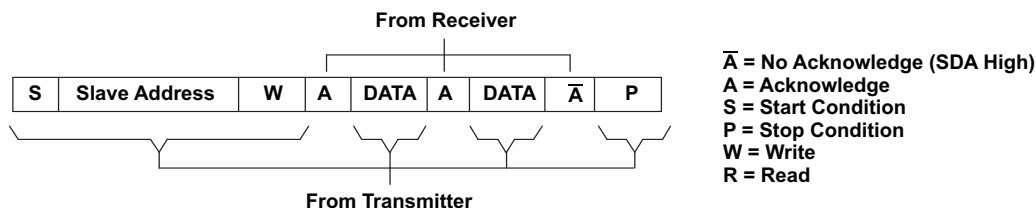
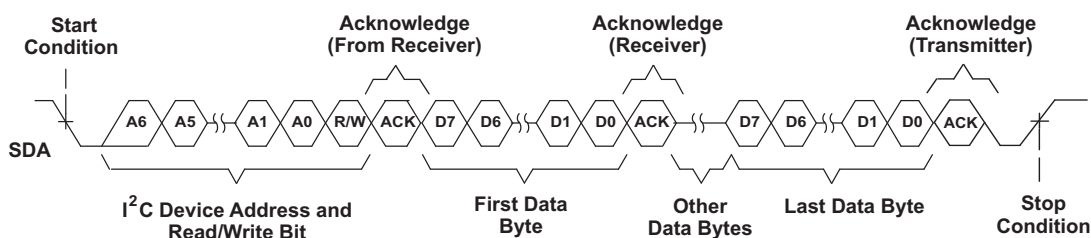
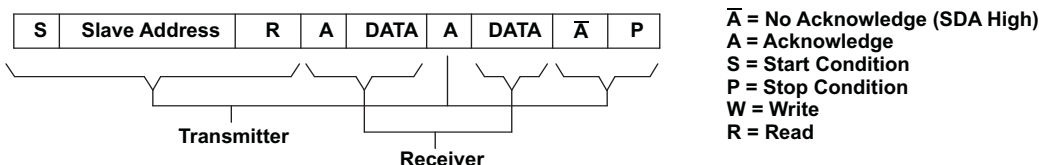
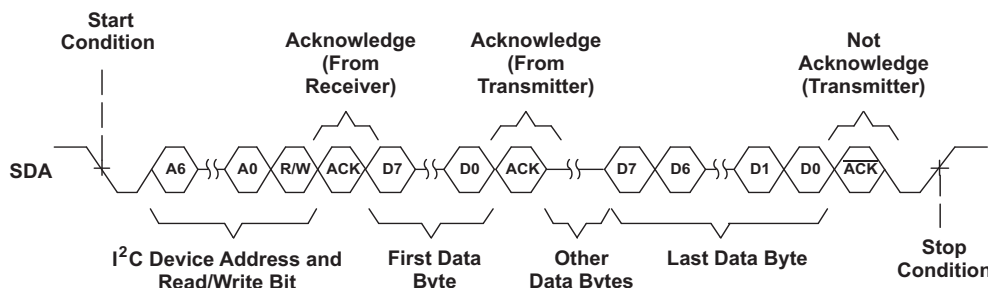

Figure 9. I²C Write Cycle
Figure 10. Multiple Byte Write Transfer
Figure 11. I²C Read Cycle
Figure 12. Multiple Byte Read Transfer
During a write cycle, the transmitting device must not drive the SDA signal line during the acknowledge cycle, so that the receiving device may drive the SDA signal low. After each byte transfer following the address byte, the receiving device pulls the SDA line low for one SCL clock cycle. A stop condition is initiated by the transmitting device after the last byte is transferred. Figure 9 and Figure 10 show an example of a write cycle. Note that the THS7347 does not allow multiple write transfers to occur. See the example, **Writing to the THS7347**, in **WRITE AND READ EXAMPLES** for more information.
During a read cycle, the slave receiver acknowledges the initial address byte if it decodes the address as its address. Following this initial acknowledge by the slave, the master device becomes a receiver and acknowledges data bytes sent by the slave. When the master has received all of the requested data bytes from the slave, the not acknowledge (\bar{A}) condition is initiated by the master by keeping the SDA signal high just before it asserts the stop (P) condition. This sequence terminates a read cycle, as shown in Figure 11 and Figure 12. Note that the THS7347 does not allow multiple read transfers to occur. See the example, **Reading from the THS7347**, in **WRITE AND READ EXAMPLES** for more information.
The THS7347 operates using only a single-byte transfer protocol similar to that illustrated in Figure 9 and Figure 11. The internal subaddress registers and the functionality of each are given in Table 2. When writing to the device, it is required to send one byte of data to the corresponding internal subaddress. If control of all three channels is desired, then the master must cycle through all the subaddresses (channels) one at a time; see the example, **Writing to the THS7347** (in WRITE AND READ EXAMPLES) for the proper procedure of writing to the THS7347.